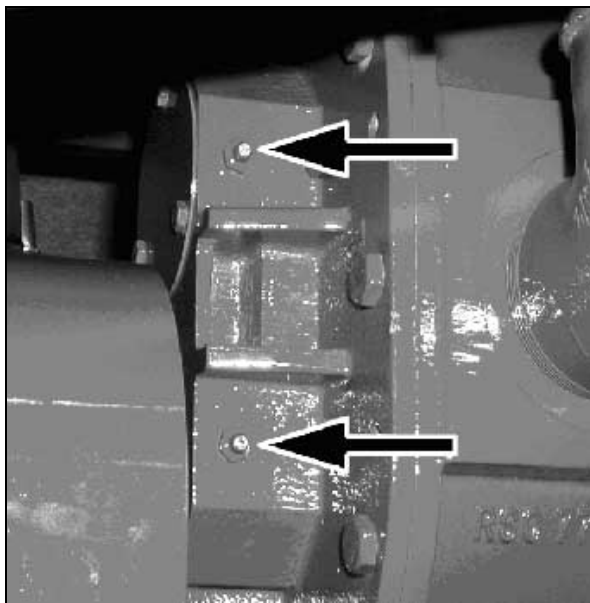

Fig. 8 – Blower Greasing Points
- [2] Use grease to NLGI No 2 specification (eg Shell Darina R2 or an equivalent good quality petroleum grease without EP additives). Use two shots of grease at each greasing point unless grease starts to come out of the relief holes first. If the type of grease is changed, all old grease should be purged through the relief holes. See Figs 8 & 9 for location of greasing points and relief holes.